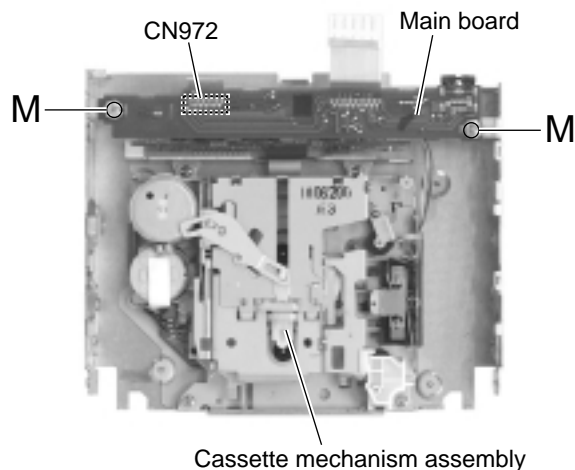

Fig.14
■ Removing the main board (See Fig.14)
■ Removing the cassette mechanism assembly (See Fig.14 , 15)